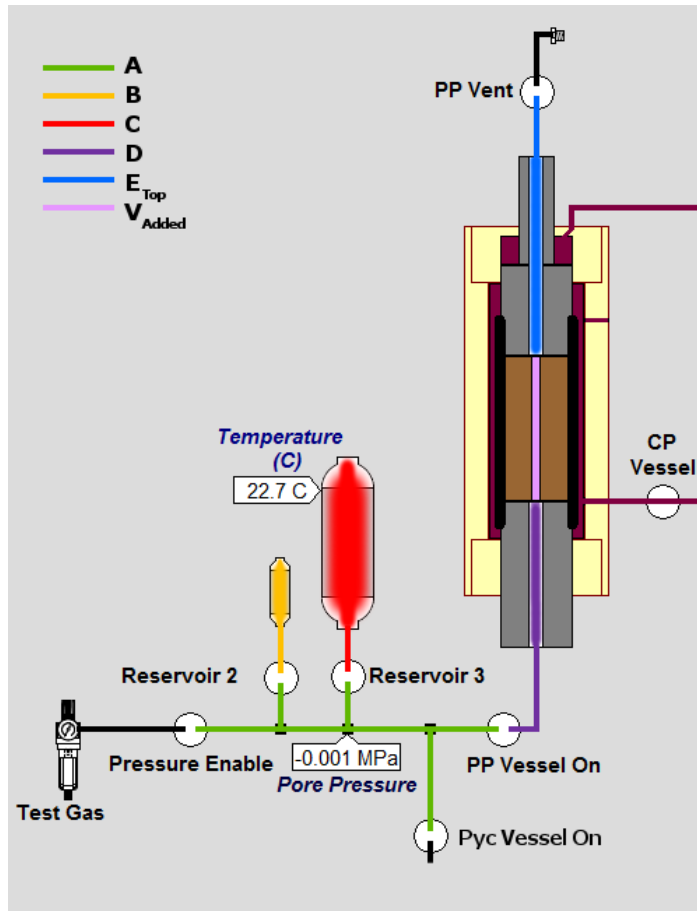

Figure 19: Distribution of reservoirs volumes
For these reservoir volumes to be used in a porosity measurement, a small volume (E) must be added which corresponds to the plumbing from the 'PP Vessel On' valve to the 'PP Vent' valve (excluding any volume in the vessel). In reference to Figure 19, $E = D + E_{Top} - V_{Added}$. This volume can be measured as follows: